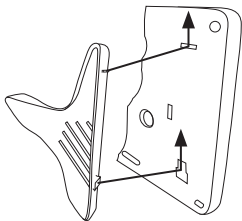

Figure 2
9862USB Wireless Graphic Touchscreen Keypads are intended for tabletop use. Follow these steps to attach the desk stand legs and power the 9862USB keypad. See Figures 2, 3, and 4.
2. Slide the leg upwards until the leg firmly snaps into place. Repeat the process to attach the second leg. See Figure 2.